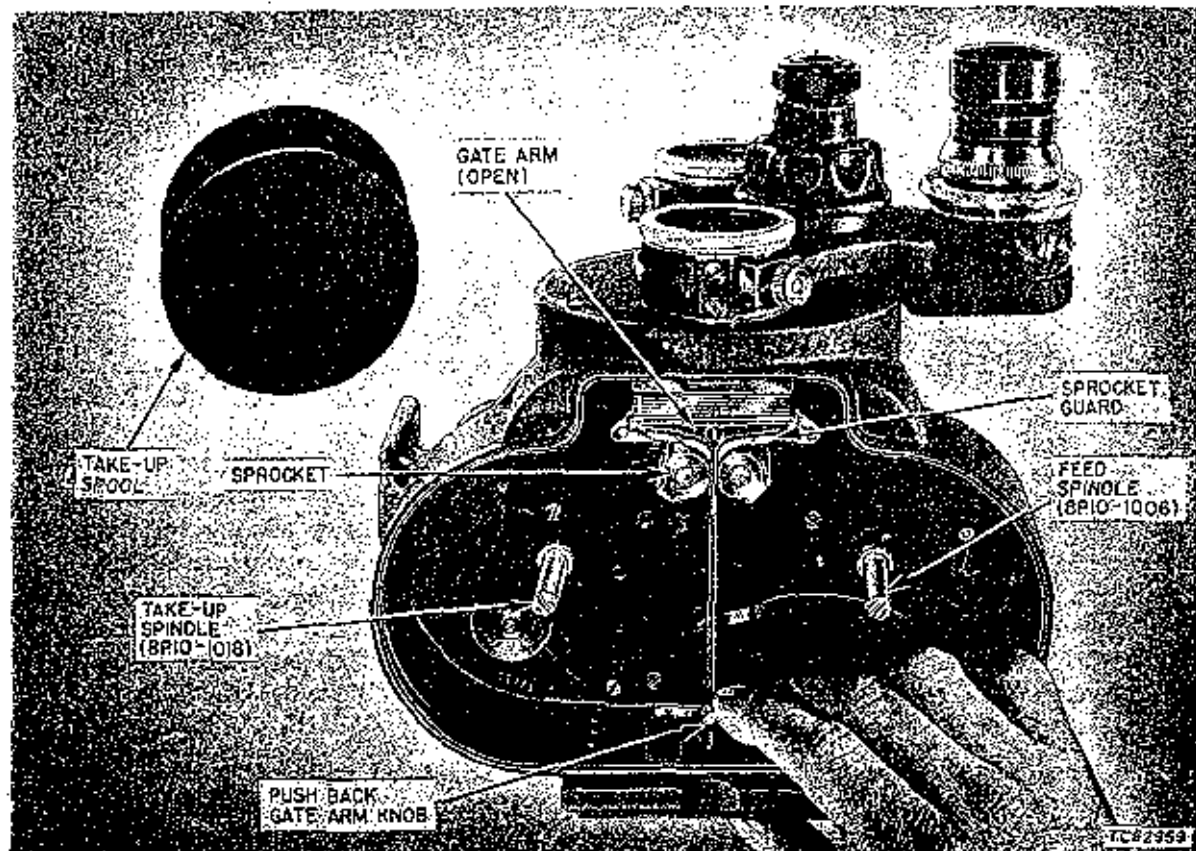

Figure 25. Before loading, Camera PH-330-(\*); opening film gate.
c. Remove the take-up spool (fig. 25). With the camera in the position described above, the take-up spool is at the left and the feed spool
is at the right. Both the feed and the take-up spindle (fig. 25) are now empty.
d. Open the film gate by pressing the gate arm knob (fig. 25) toward the back of the camera. Be sure to move the knob as far back as it will go, as the flange on the gate arm forces the sprockets away from the sprocket guards (fig. 25).